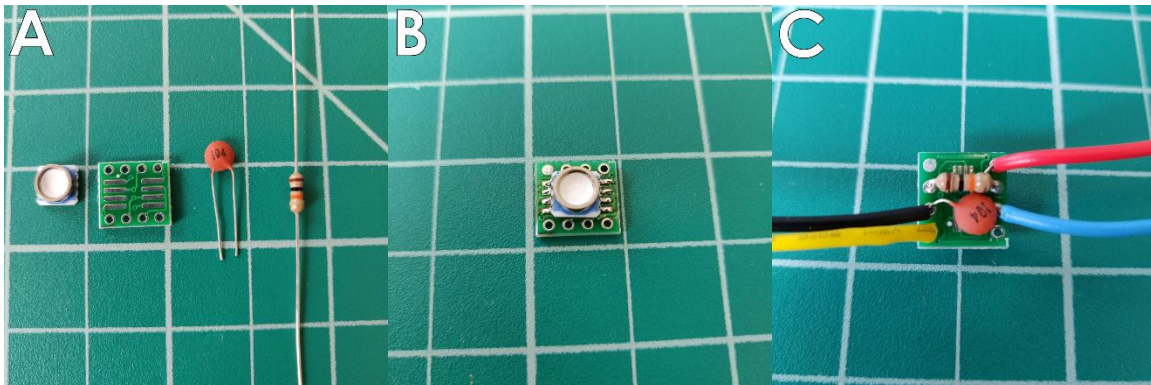

Figure 9. Building the Pressure Sensor unit. A: Components of the sensor. B: Surface mounting the sensor. C: Wiring up the components.
1. Reference Figure 9 and the photo and pinout guide below. Place Atlas EZO circuit and connect jumper wires in accordance.